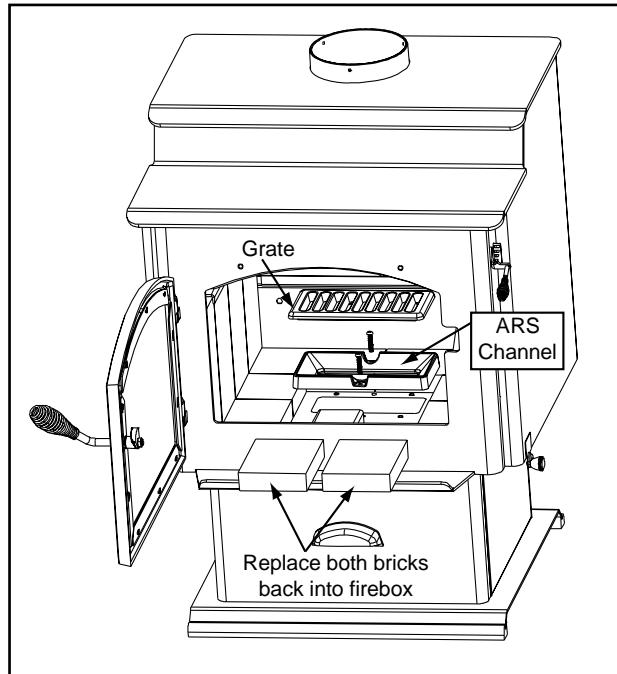

Figure 22.2
1. The ARS channel is already installed on the stove. Set the grate into the ARS channel and secure with 2 bolts previously removed. Replace the 2 front cut bricks. **Figure 22.2.**
1. Follow steps 1 through 3 on page 22. See also Figure 22.2.